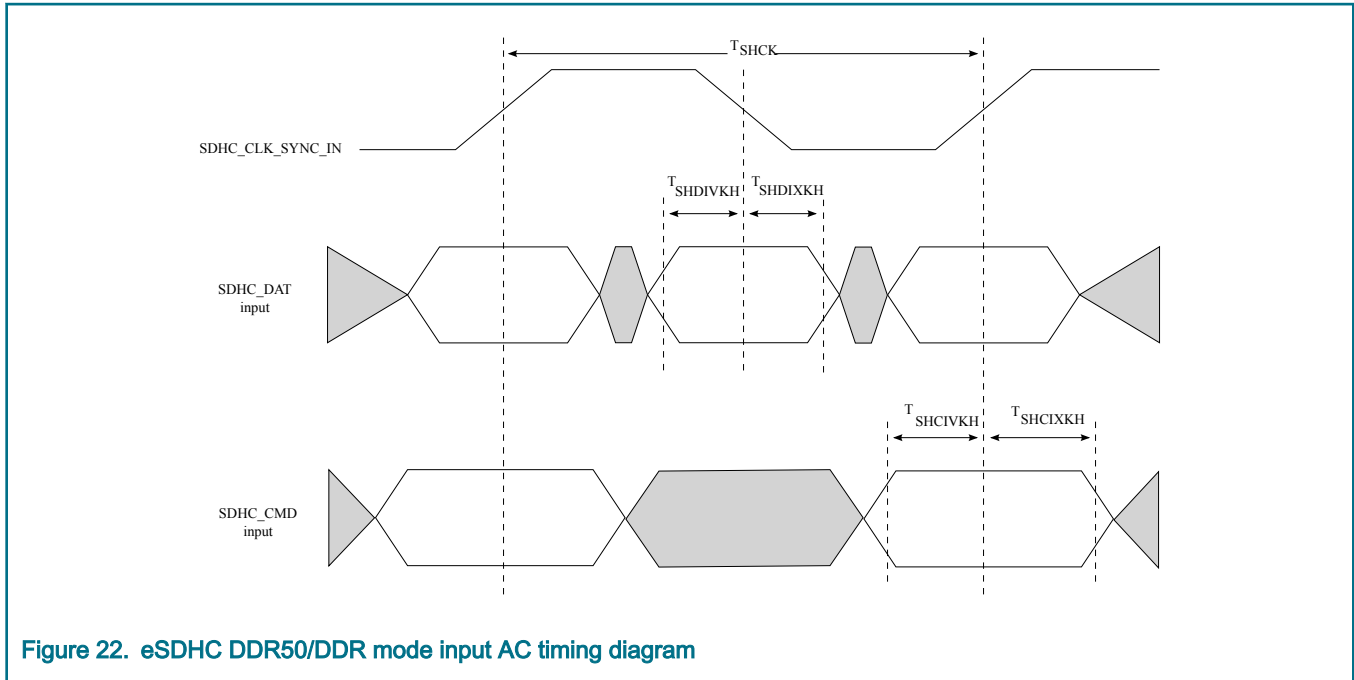

Figure 22. eSDHC DDR50/DDR mode input AC timing diagram
3. The symbols used for timing specifications herein follow the pattern of t_{(first two letters of functional block)(signal)(state) (reference)(state)} for inputs and t_{(first two letters of functional block)(reference)(state)(signal)(state)} for outputs. For example, t_{SHCKHOX} symbolizes eSDHC highspeed mode device timing (SH) clock reference (K) going to the high (H) state, with respect to the output (O) reaching the invalid state (X) or output hold time. Note that in general, the clock reference symbol is based on five letters representing the clock of a particular functional. For rise and fall times, the latter convention is used with the appropriate letter: R (rise) or F (fall).
4. See Figure 22.
2. The symbols used for timing specifications herein follow the pattern of t_{(first two letters of functional block)(signal)(state) (reference)(state)} for inputs and t_{(first two letters of functional block)(reference)(state)(signal)(state)} for outputs. For example, t_{SHKHGX} symbolizes eSDHC highspeed mode device timing (SH) clock reference (K) going to the high (H) state, with respect to the output (O) reaching the invalid state (X) or output hold time. Note that in general, the clock reference symbol is based on five letters representing the clock of a particular functional. For rise and fall times, the latter convention is used with the appropriate letter: R (rise) or F (fall).
3. See Figure 22.